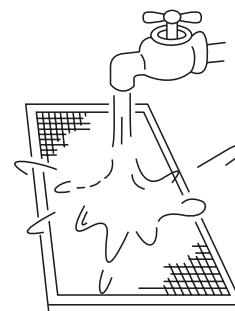

FIG. 6-4
- The air-in side should face down when using water. (See Fig. 6-4)